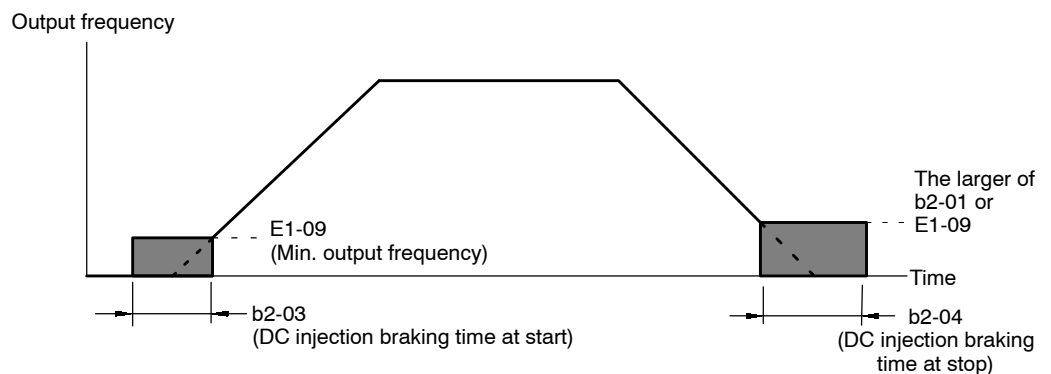

Fig 7.19 DC Injection Braking Timing Chart
- Figure 7.19 provides a timing chart of DC injection braking (initial excitation).